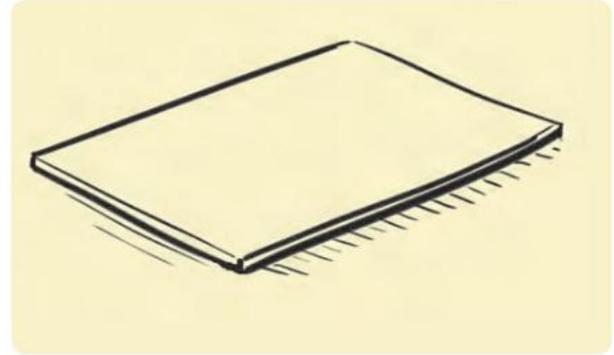

Figure 10.11 A flat piece of PVC pipe
- 4 When heat is applied to the PVC pipe, the part of the pipe that is in contact with the heat becomes softened and can be flattened easily. Apply heat evenly until the pipe is flat and straight as shown in Figure 10.11.